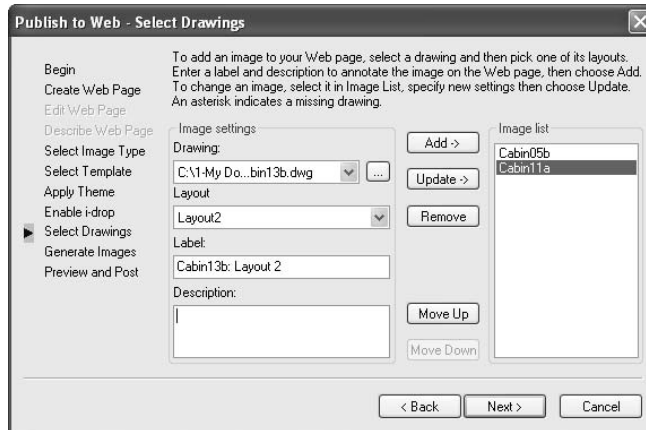

FIGURE BC.11: The Select Drawings screen of the Publish To Web Wizard
- Choose which drawings to regenerate as they are captured (see Figure BC.11).